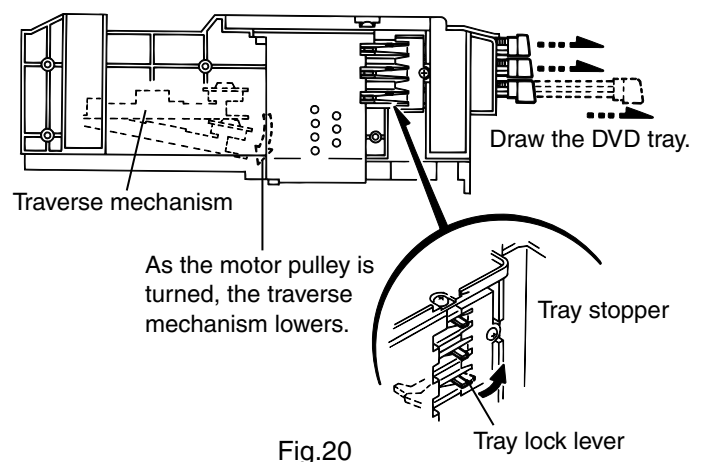

Fig.20
■ Bringing down the traverse mechanism as shown in the Fig.20